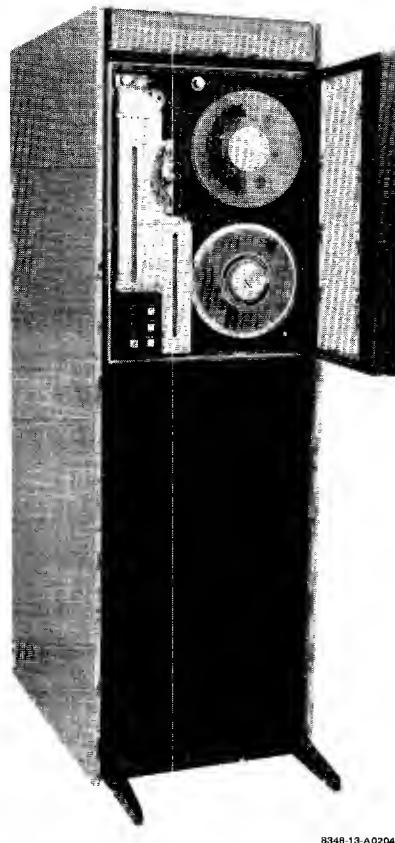

Figure 5-25 TE16 DECmagtape System
The TE16 DECmagtape Transport (Figure 5-25) is an industry-compatible 9- or 7-track tape transport capable of reading and writing on 1.27 cm (0.5 in) magnetic tape at 1600 char/in (PE) and 800 char/in (NRZI). Tape density and tape character format are program selectable. Forward/reverse tape speed is 1.14 m/s (45 in/s), while rewind is performed at 3.8 m/s (150 in/s). The tape transport consists of a tape deck with associated reel and capstan motors; H607 motor driver module, transformer and capacitor assembly; a logic box that integrates the read/write electronics, the control electronics, and the power supply regulator; and a vacuum assembly. An off-line test function generator (TFG) module is included in the control package, which allows some maintenance procedures to be completed off-line. The TE16 is outfitted with cable connector modules that interface directly to the TM02. Up to eight (8) TE16 transports can be interfaced to a TM02.